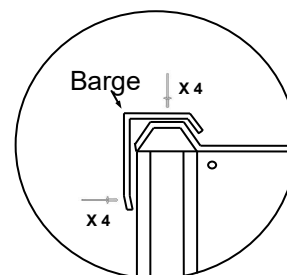

fig.3
- Position the first Roof Sheet so that the top of the sheet is at the centre of the Ridge Beam and the side of the sheet over hangs the end of the Ridge Beam (fig. 3). Using 1 x 50mm Clout, pre-drill and nail through the rib into the top corner. Repeat above and nail the lower corner ensuring 15mm overhang.
- Rivet the Barge Flashings to the roof and the side wall, using four rivets on top of barge and four into the side (fig.3).